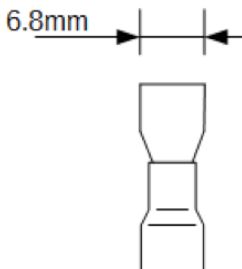

Figure 2:
All load negative returns are connected directly to the **J35** negative terminals. All are terminated by using quick connect (QC). Dimension of the QC is specified in Figure 2.